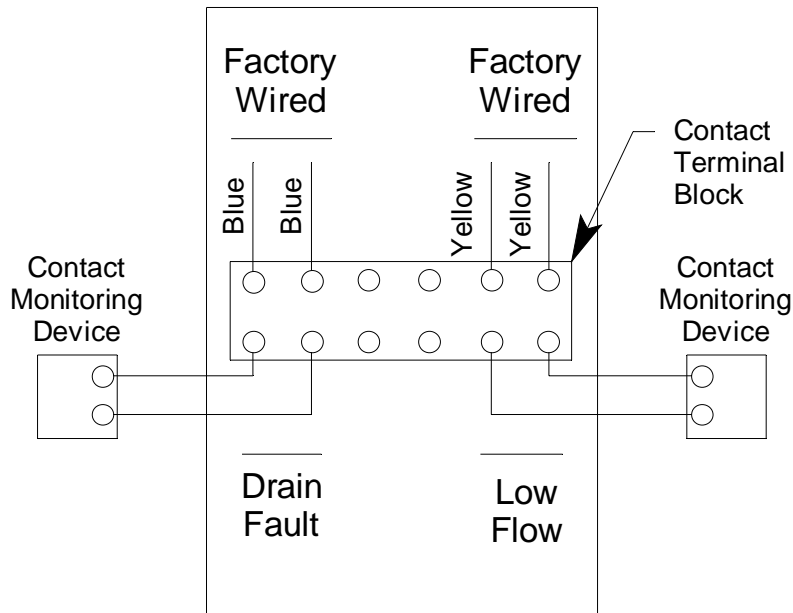
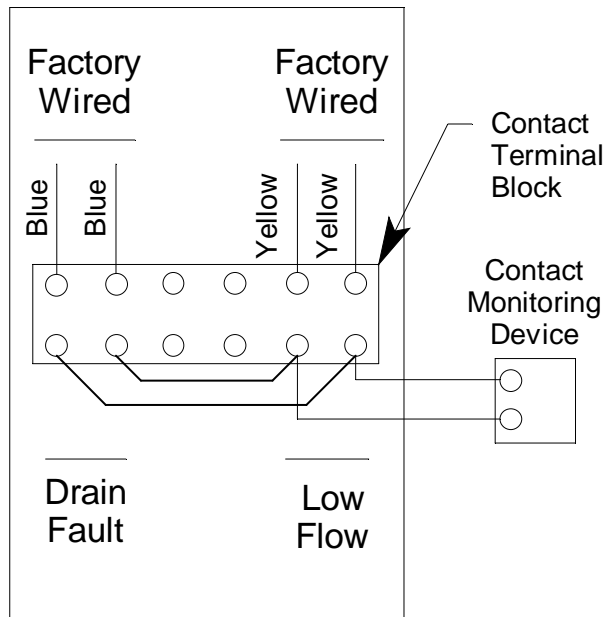

Figure 4: Low Flow and Drain Fault Wiring, Independent Wiring
Figure 5: Low Flow and Drain Fault Wiring, Parallel Wiring
8. Reconnect any wires that were removed before setting the drain fault switch. Refer to Figure 4 and Figure 5 for wiring diagrams.